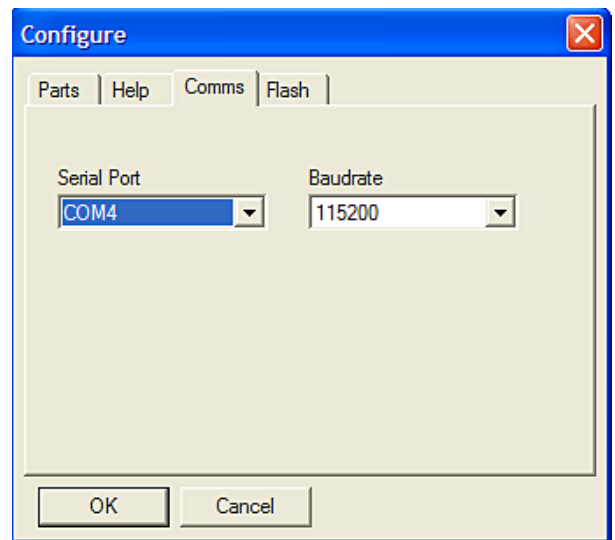

Figure 9. Selecting the Correct COM Port for the Downloader
4. Click **Configure** to display the window shown in Figure 9.
Configure the downloader file for the **ADuC7026** microcontroller. The only option that may need adjusting is the COM port. The user can select the correct port from the **Serial Port** box on the **Comms** tab (see Figure 9).